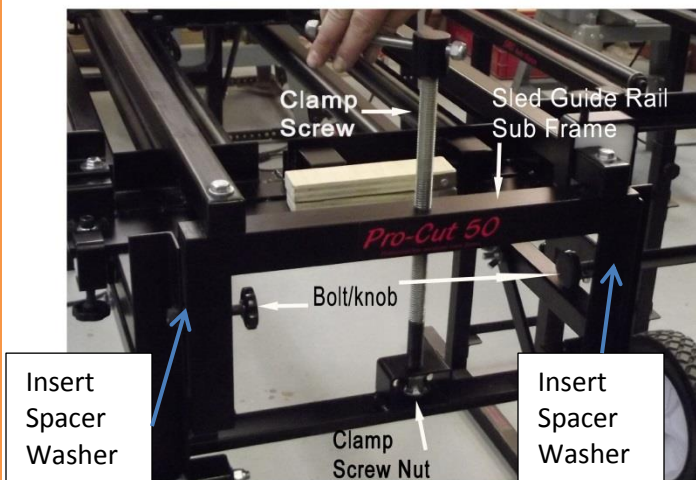

Fig 2
- 1) Locate the (2) Guide rail sub frame ends that have a 5/8" x 16" Clamp Screw, 5/8" washer and 5/8" Clamp Screw Nut with welded washer already mounted to each of the guide rail sub frames.
- 2) You will notice (2) long bolt/knobs screwed into the Pro-Cut 50 frame on either side of the Pro-Cut 50 frame and another (2) long bolt/knobs at the other end of the Pro-Cut 50 frame.
- 3) Remove (2) bolt/knob screws from one end of the Pro-Cut 50 frame and place the guide rail frame so the slots in the guide rail frame line up with the mounting holes in the Pro-Cut 50 frame. You will notice there are 2 washers on the bolt/knob. Both washers must be placed as described below. Place a washer on the bolt/knob. There will also be a washer placed on the bolt/knob between the slotted guide rail sub frame and the Pro-Cut 50 frame. (See Fig 2) This washer acts as a spacer as well as allow the guide rail frame to raise and lower smoothly. Screw the bolt/knob into the Pro-Cut 50 frame. Follow the same procedure for the opposite side of the guide rail frame. Allow the bottom of guide rail frame to rest squarely on the Pro-Cut 50 frame.
- 4) Screw the clamp screw assembly down until it enters the 5/8" hole of the Pro-Cut 50 frame bracket. As soon as the clamp screw assembly clears the 5/8" hole of the Pro-Cut 50 frame bracket, place a 5/8" washer on the Clamp Screw then screw the 5/8" nut with welded washer onto the Clamp Screw. (see fig 2 and 3) Using an adjustable wrench and holding the clamp screw handle tightly, tighten the clamp screw nut onto the clamp screw. Raise and lower the guide rail sub frame to be sure it operates smoothly.